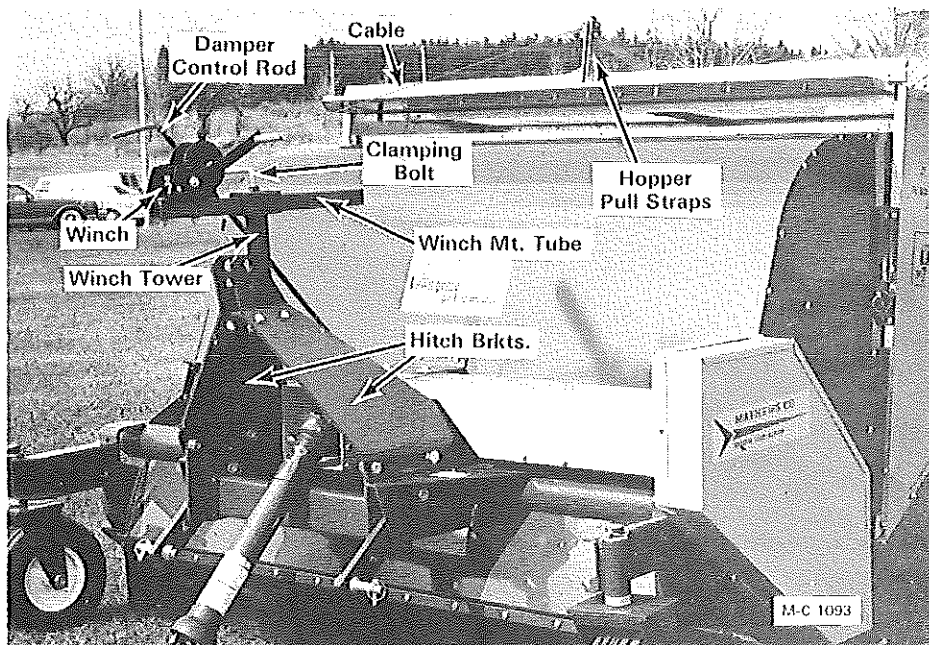

Figure 8
2. Slip the winch mount tube through the winch tower. Clamp down with the clamping bolt, see Figure 8.
5. Install the damper control rod through the guide hole in the winch tower, see Figure 8. Attach the damper control rod to the damper panel and secure with a  $\frac{1}{8}$  x  $\frac{3}{4}$ " cotter pin.
1. To mow and load clippings, (LG60B & LG72B only), pull the damper panel control rod forward, see Figure 8. This opens the damper panel which allows clippings and/or leaves to travel up the chute and into the hopper.